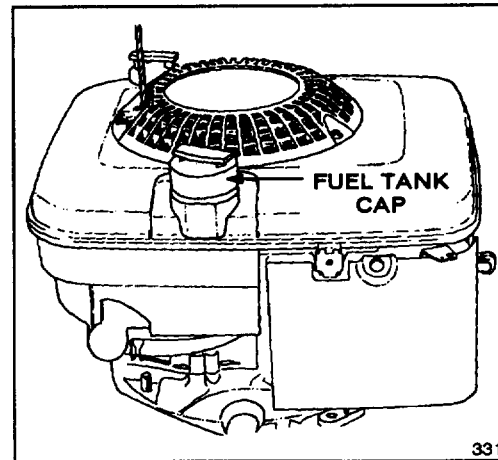

Figure 5
1. Clean around fuel tank cap and remove cap from tank (Fig. 5). Using unleaded gasoline, fill fuel tank to within 1/4 to 1/2 inch (6 to 13 mm) from top of tank, not into filler neck. Do not fill tank full.